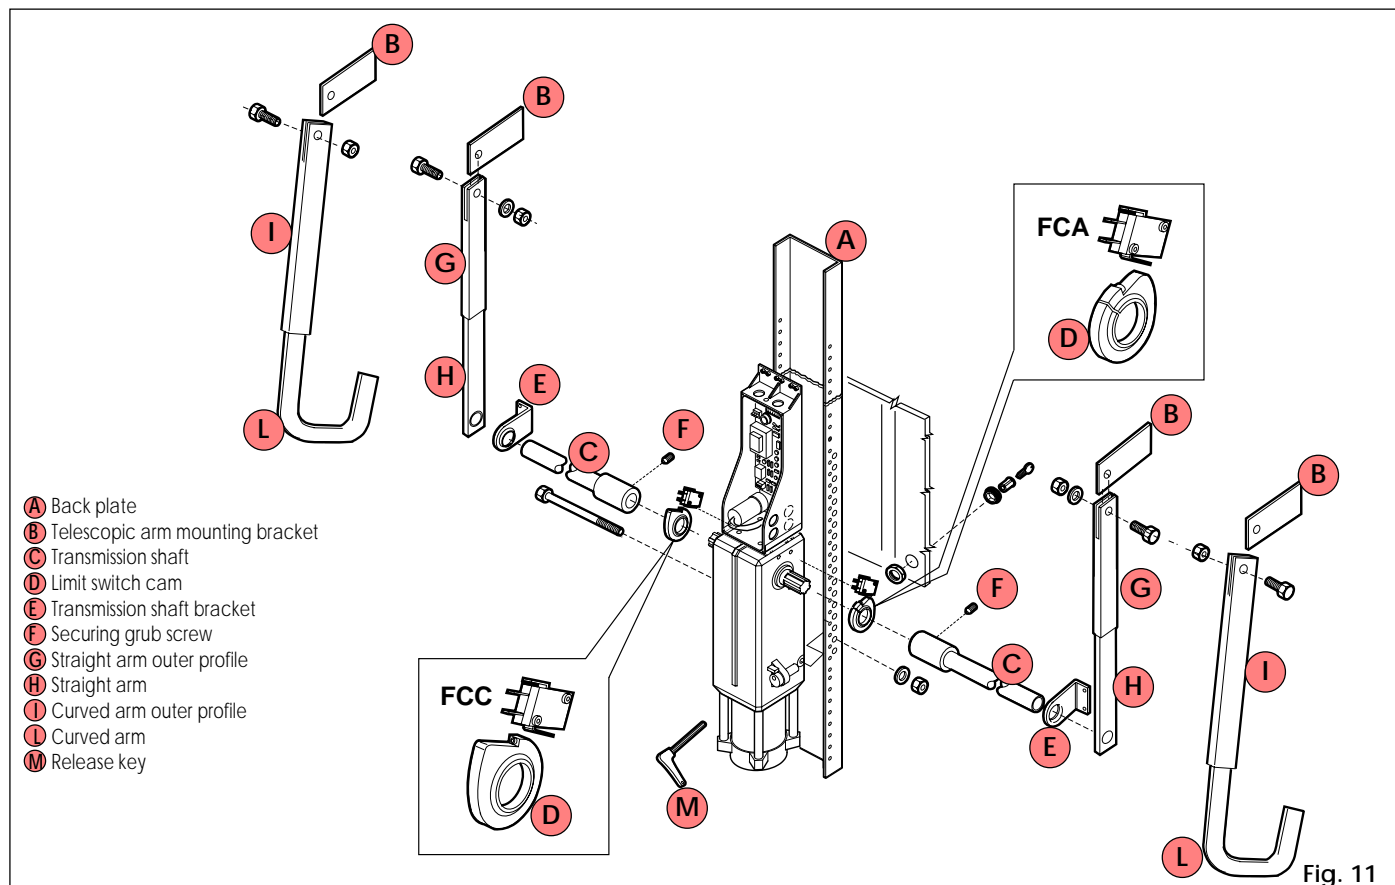

Fig. 11
3) Fix the operator to the back plate using the nuts and bolts provided, as shown in Fig. 11.
Fix the outer profiles of the telescopic arms to the brackets using the pins and the nuts and bolts provided, as shown in Fig. 11.
➤ If limit switches are used (optional), first fit the cams as shown in Fig. 11.